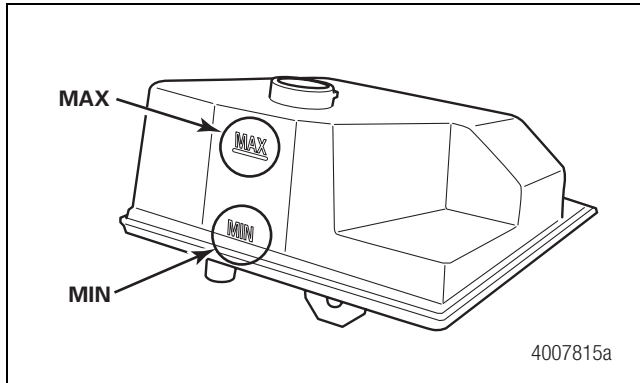

Figure 1
13. With the system completely charged, the brake fluid level will be between the MIN and MAX marks on the master cylinder reservoir. Figure 1.